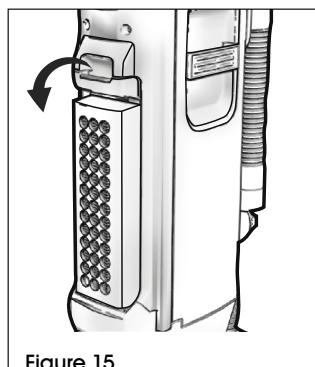

Figure 15
- Pull down on the filter assembly latch to release. (See Figure 15)